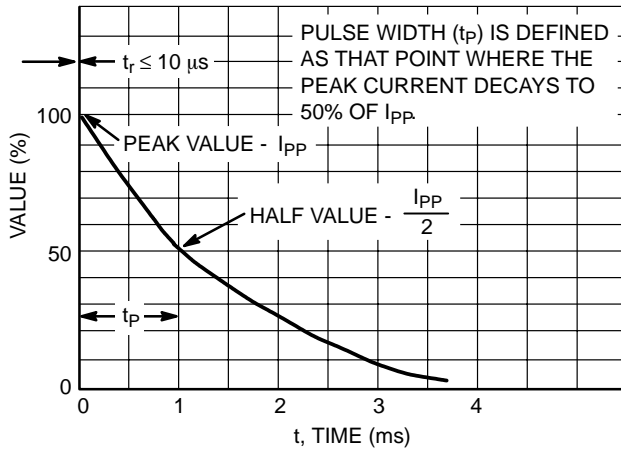
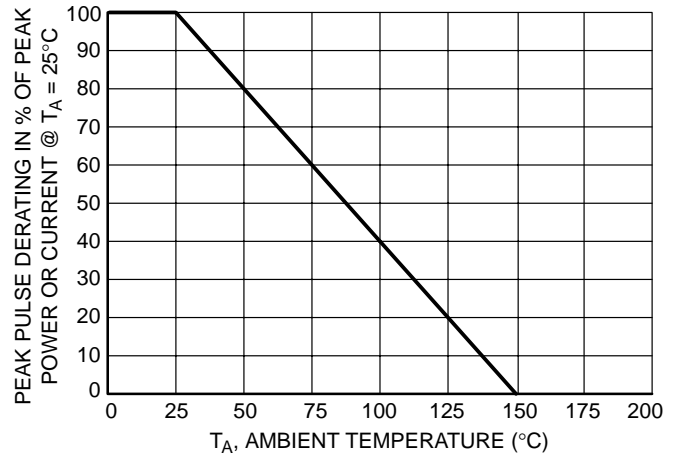

Figure 5. Pulse Waveform
Figure 6. Pulse Derating Curve
1. Non-repetitive current pulse per Figure 5 and derate above $T_A = 25^\circ\text{C}$ per Figure 6
6. Surge current waveform per Figure 5 and derate per Figure 6